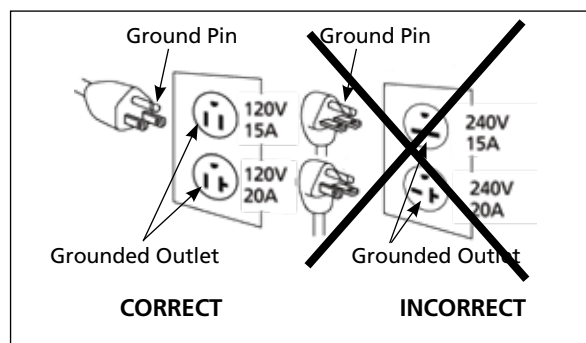

Figure 2 - Grounding Method
1. This product is for use on a nominal 120 v circuit. It must be grounded. In the event of an electric short circuit, grounding reduces the risk of electrical shock by providing an escape wire for the electric current. Unit is equipped with a cord that has a grounding prong. It will fit one of the common outlet types shown in Figure 2. If plug will not fit in the desired outlet, have the plug or the outlet replaced by a qualified electrician.
1. If the plug on the electrical cord of the unit is unfamiliar to you or will not fit your particular receptacle, Figure 2 will help you understand why by illustrating the different plugs and the voltages they are to be used with.
3. This product is for use on a nominal 120 volt circuit and has a grounding plug that looks like the plug illustrated in Figure 2.